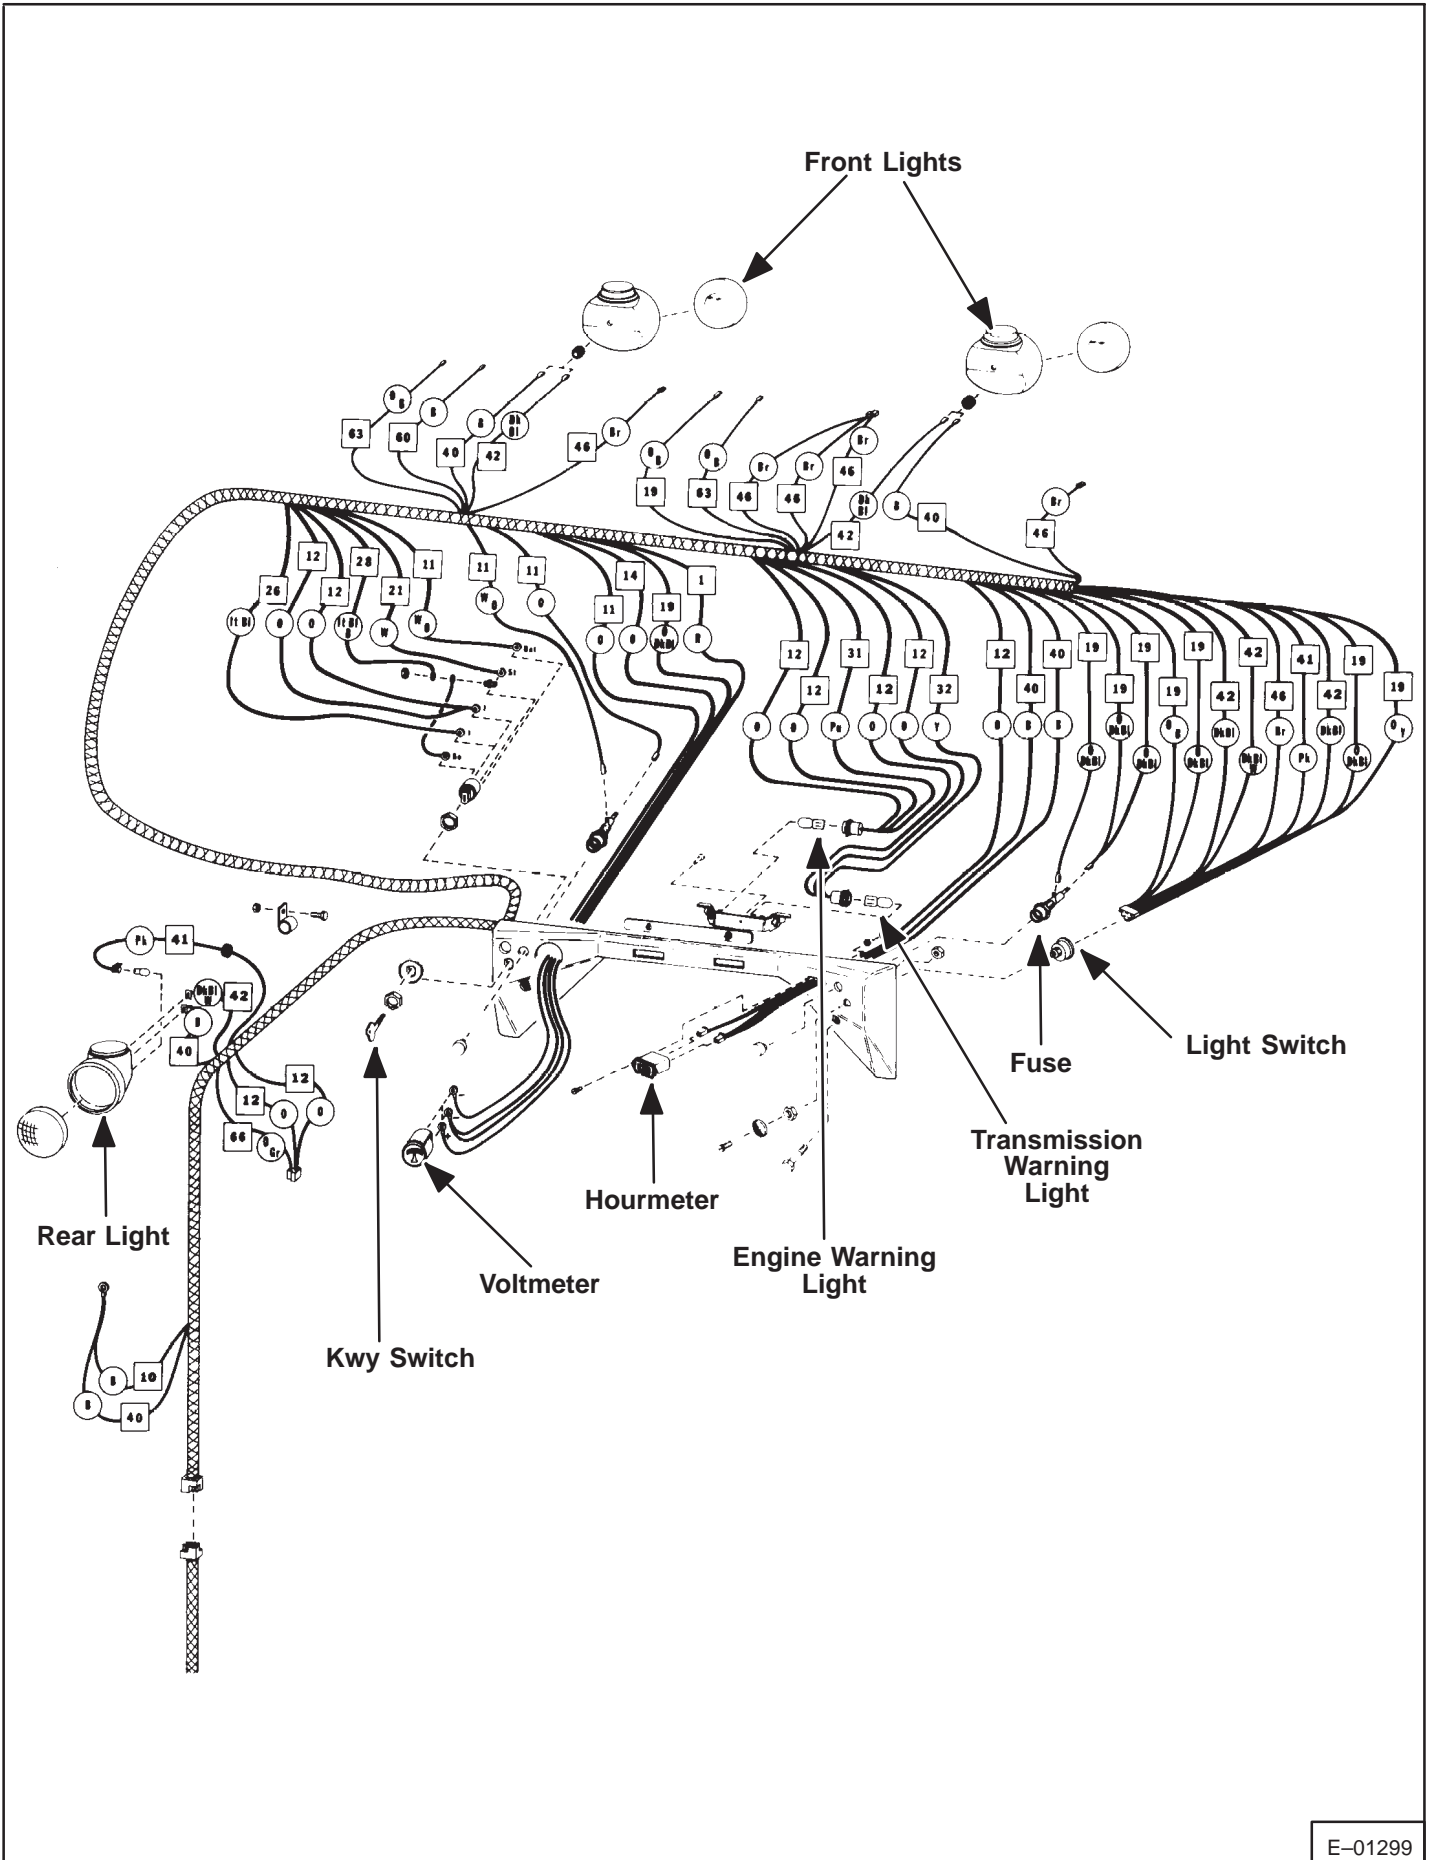

Fig. 1-27 ROPS Electrical System
4. The 630 series Bobcats have two fuses located in the instrument panel (Fig. 1-27).